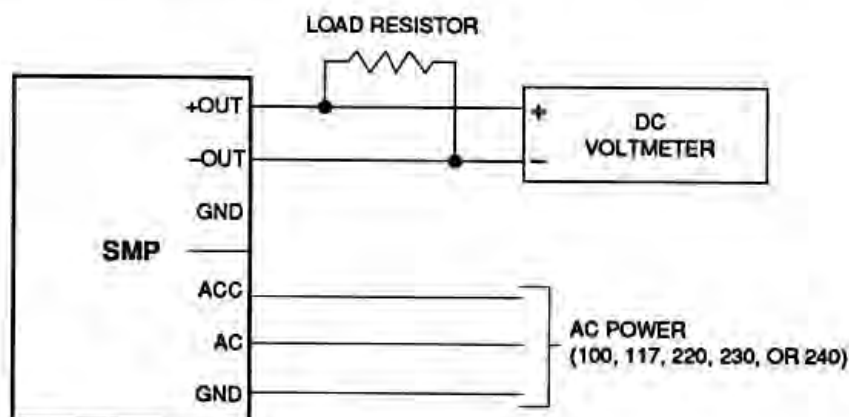

Figure 3. Output Check/Adjustment Setup
Figure 3 shows the equipment setup required to perform the voltage adjustment. The safety cover concealing the terminal strip on the SMP must be removed to make the necessary electrical connections.
Check the unit's model number for its input and output configuration. Refer to table 2 and figure 3 before attempting this procedure
2. Connect voltmeter, load resistor, and ac power cord as shown in figure 3.